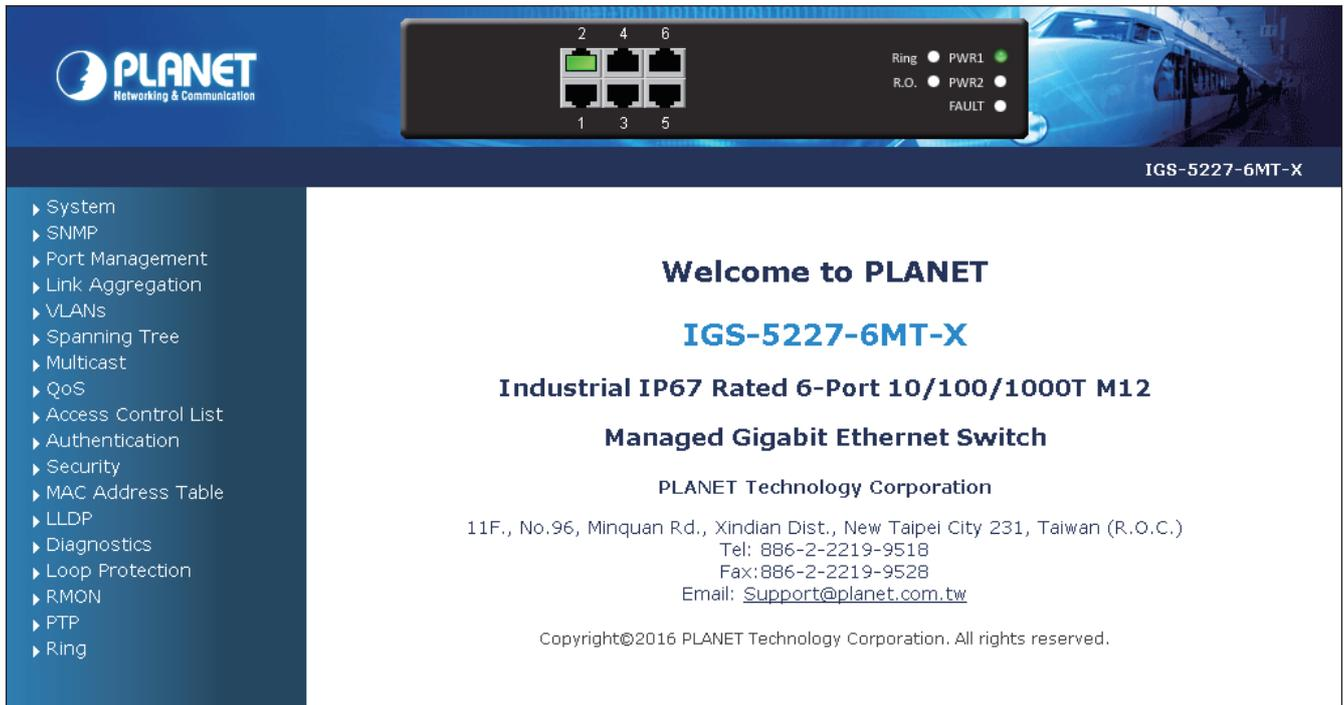

Figure 9-5: Web Main Screen of Industrial Managed Switch
5. After entering the password, the main screen appears as Figure 9-5 shows.